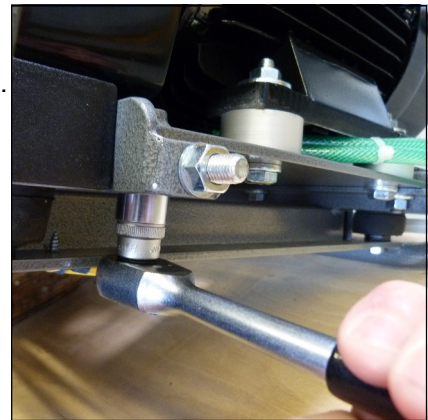

Fig. 1 - Loosen mounting screws of the motor flange
- Loosen mounting screws of the motor flange (Fig. 1 +2).